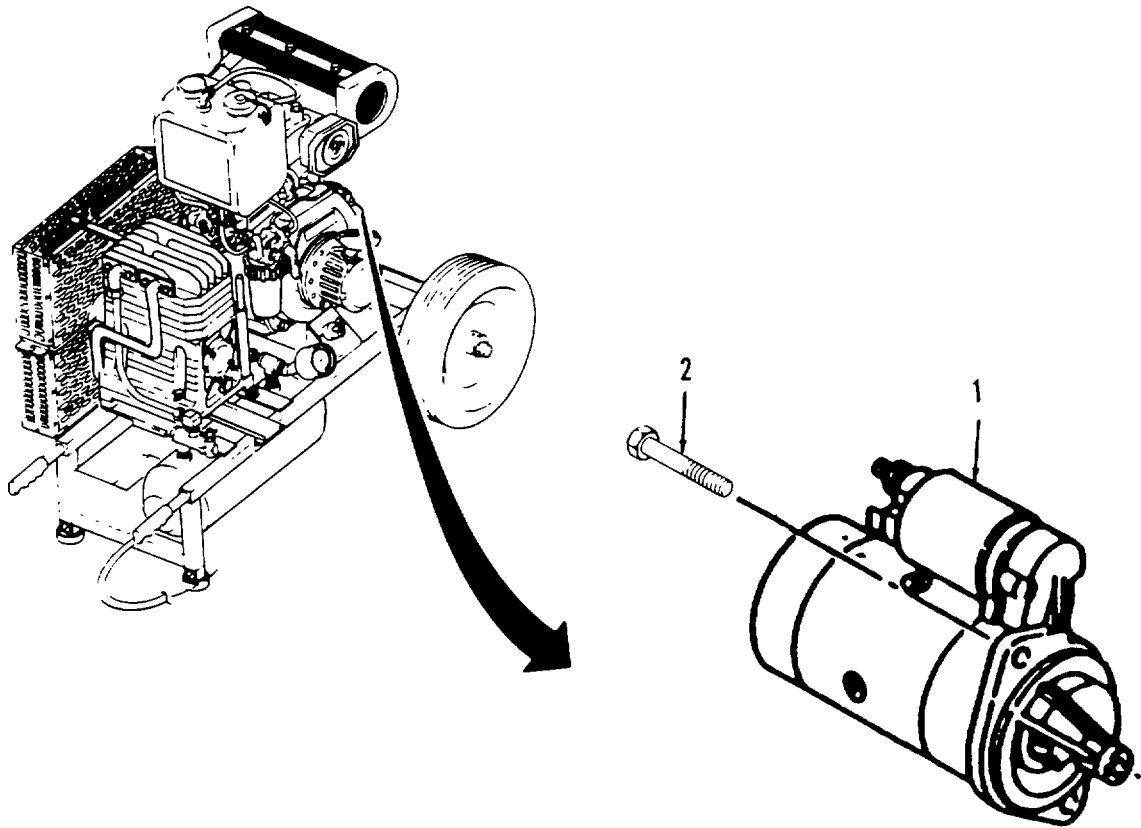

Figure 4-19. Starter Replacement.
a. Removal. (Refer to Figure 4-19).
- (1) Tag and disconnect wires from starter (1).
- (2) Remove two screws (2).
- (3) Remove starter (1) from engine.